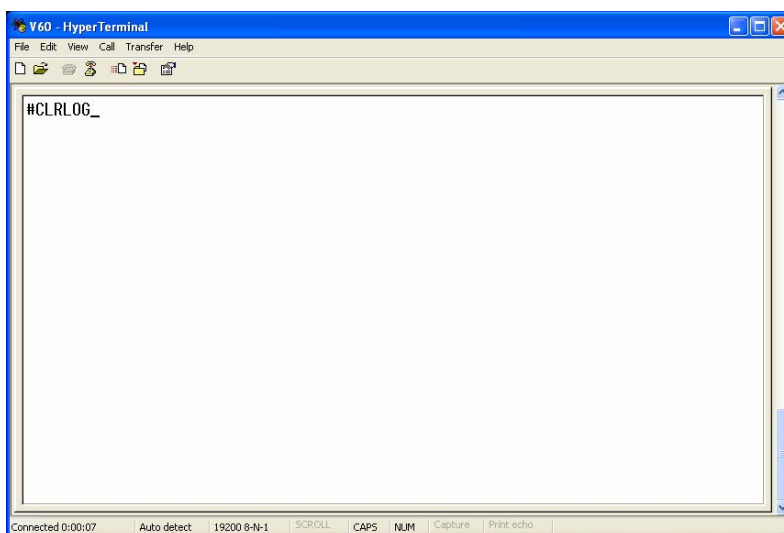

Figure 6-34: Clear Diagnostic Codes Command
4. Type: **#CLRLOG** (all caps) in the dialog box, and press **Enter** to clear the diagnostic log (Figure 6-34).